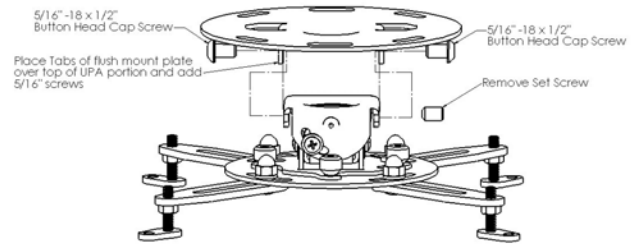

Figure 7. Attach Top Plate
2. Using Allen wrench provided, tighten the set screw to lock the UPA in position (see Figure 7).
1. Remove set screw (see Figure 7).